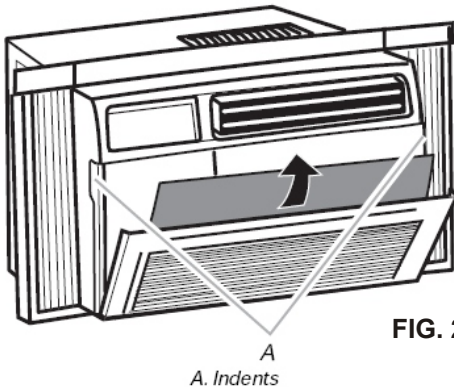

FIG. 21
1. Remove the filter by pulling down on the indents of the filter door on the front of the unit. (See FIG. 21)